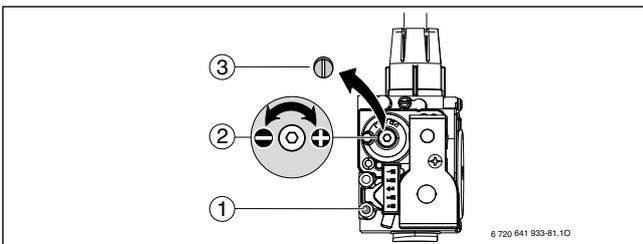
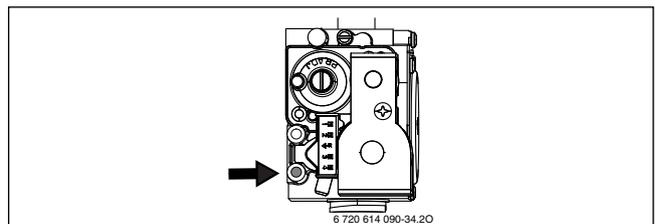

Fig. 6 Set CO2 or O2 level for minimum nominal output
Fig. 8 Dynamic gas pressure test port
- ▶ Remove the sealed screw (→ Fig. 6, [3]) from gas valve adjustment screw (→ Fig. 6, [2]) and set CO2 or O2 level for minimum nominal output.
- ▶ Reinstall the screw (→ Fig. 6, [3]) to cover the gas valve adjustment screw.
- ▶ Loosen the screw in the test port for gas inlet pressure (→ Fig. 6, [1]) and connect a pressure gauge (→ Fig. 8).
- ▶ Retirer la vis scellée (→ fig. 6, [3]) au niveau de la vis de réglage (→ fig. 6, [2]) du bloc gaz et régler le taux de CO2 ou d'O2 pour la puissance thermique nominale minimale.
- ▶ Remettre la vis en place (→ fig. 6, [3]) pour couvrir la vis de réglage de la vanne de gaz.
- ▶ Desserrer la vis au niveau de la buse de mesure de la pression de raccordement gaz (→ fig. 6, [1]) et raccorder le manomètre (→ fig. 8).